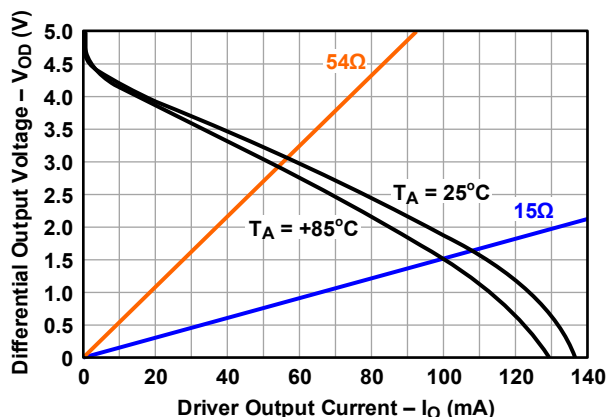

Figure 11. Driver Differential Output Voltage vs Output Current
- See Figure 11 on page 14 for more information and for performance over temperature.